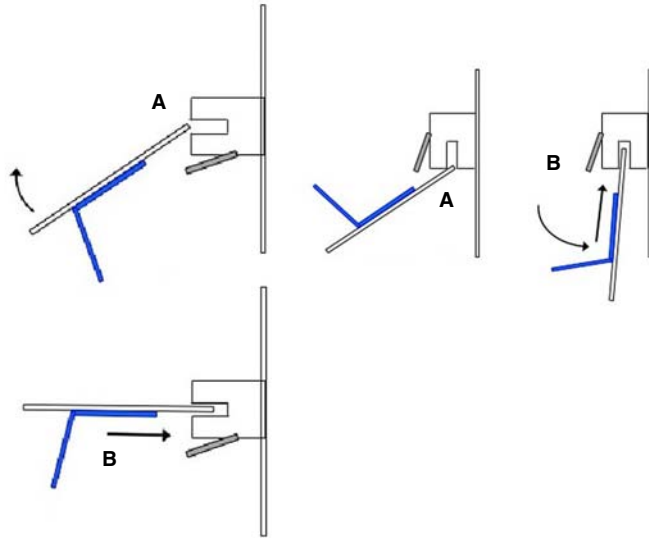

Figure 2 FFC cable connect
3. Use the blue reinforcing tab to very carefully connect the FFC cable, Figure 2:
- a. Position the FFC cable at an angle (A), then centrally (B) in the slot of the connector.
- b. While aligning the FFC cable with the slot, firmly push the FFC cable into the connector (B). The release lever will close and a click will be heard when the FFC cable is fully inserted.
NOTE: Two types of surface mounted connectors are shown in Figure 2.